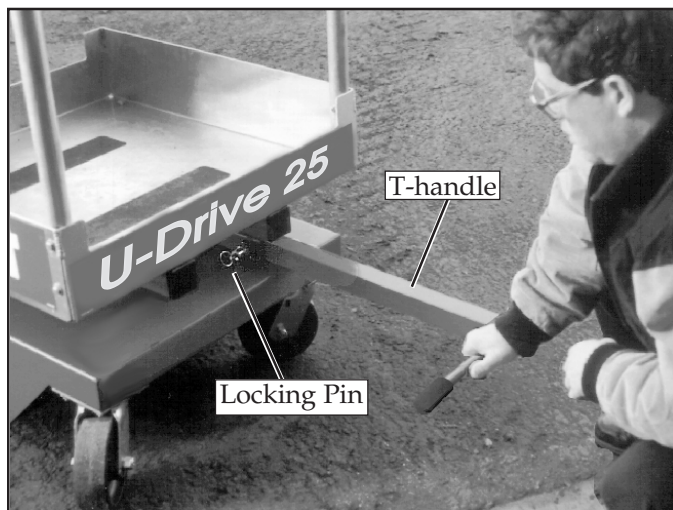

Figure 7: Handle positioning
6. Release the locking pin and pull the handle out until the locking pin engages the hole in the end of the handle (Figure 7).